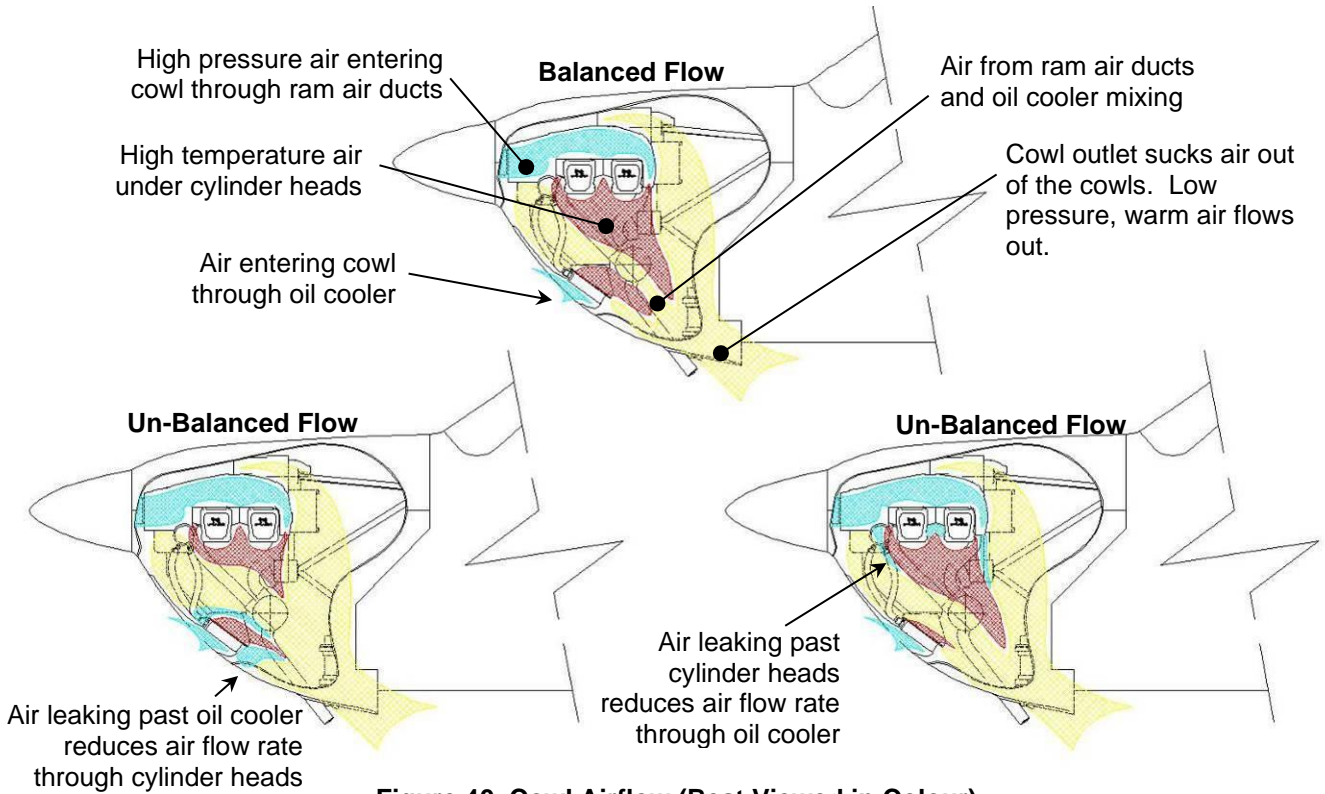

Figure 40. Cowl Airflow (Best Viewed in Colour)
- A generalised picture of the airflow and air temperature is shown in Figure 40.